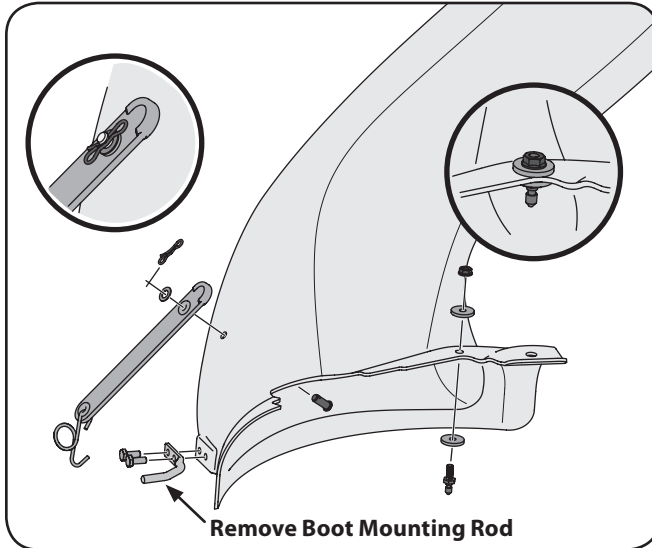

Figure 4-21
1. Install the rubber chute strap, from hardware pack 689-00318A, onto the chute elbow using the clevis pin (711-05063), washer (736-0204) and Bow-tie cotter pin (714-04040) from the hardware pack. See Figure 4-21. Secure the end of the strap utilizing the hole furthest from the end, insert the torsion spring hook (732-04510A) into the other end.
Note: On decks with front deck wheels, the boot mount rod must be removed in order to install this discharge chute elbow onto the tractor. See Figure 4-21.
2. Install the deck mounting pin (711-05049) up into the chute elbow using two flat washers (936-0176) from hardware pack 689-00318A and secure with a flange lock nut (912-3027), as shown in Figure 4-21.